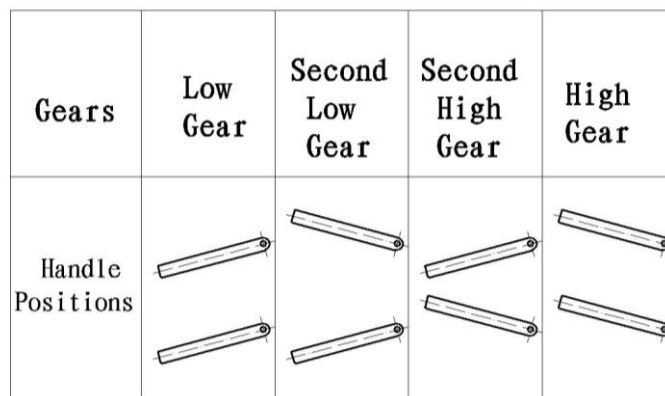

Figure 4-1
3. Be familiar with the operation of shifting handle (various gears of shifting handle are shown in Figure 4-1):